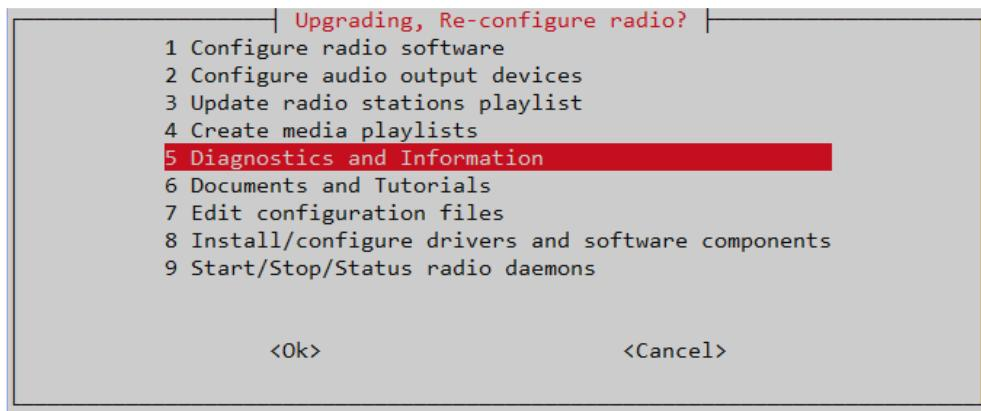

Figure 238 Diagnostics and Information menu
- Select option **1 Run the radio in diagnostic mode (nodaemon)** shown in *Figure 238 Diagnostics and Information menu* on page 198.
- Select option **2 Test rotary encoders** from the diagnostics menu. shown in *Figure 238 Diagnostics and Information menu* on page 198.
- Select option **2 Test rotary encoders** from the diagnostics menu shown in *Figure 238 Diagnostics and Information menu* on page 198.
- Select option **5 Test configured display** from the diagnostics menu shown in *Figure 238 Diagnostics and Information menu* on page 198. This displays the following output